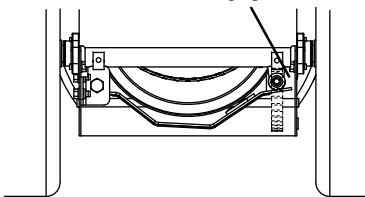

Figure 25
(Figure 25)
2. With the clutch lever engaged, check the clearance between the frame and plastic roller on the lower end of the attachment idler arm. See Figure 25.